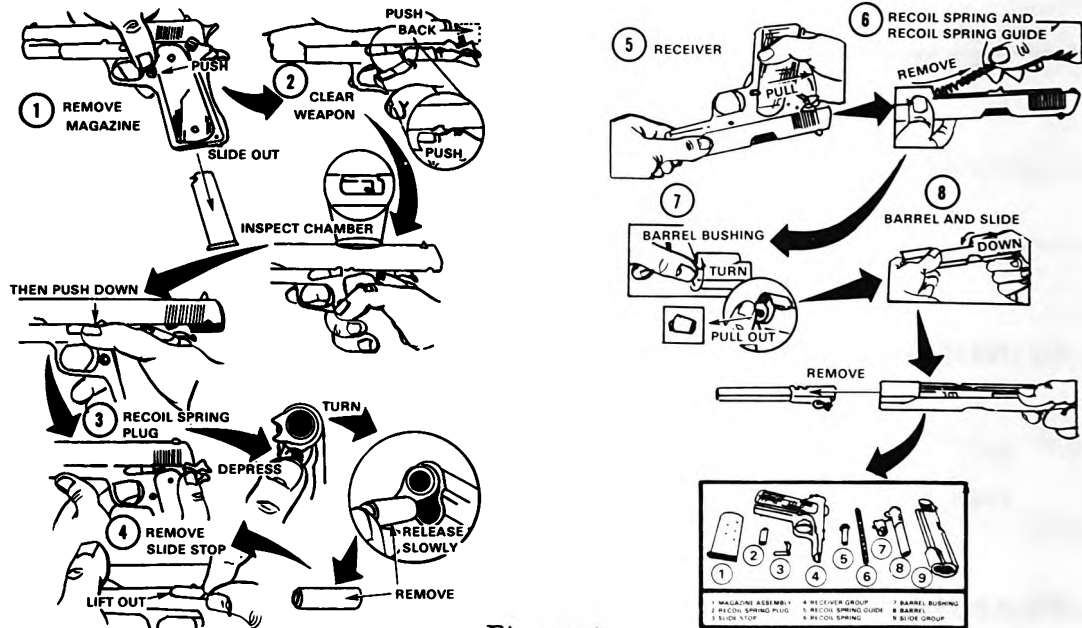

Figure 1.
2. Disassembly (figure 1).**3. Care and Cleaning of the Caliber .45 Pistol.****a. Cleaning materials.**